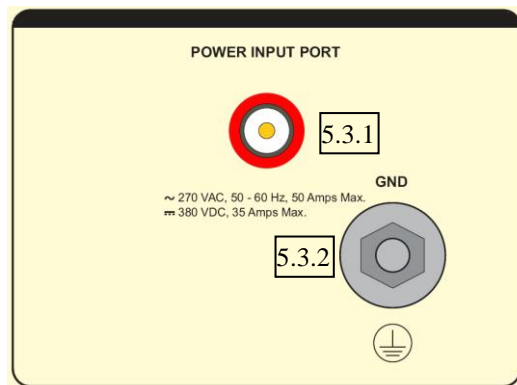

Figure 3: Rear Panel
*The LI-150C is based on the 50Ω/50 μH artificial mains network (AMN) circuit and component values (Figure 3) specified in ANSI C 63.4 – 2009 American National Standard for Methods of Measurement of Radio-Noise Emissions from Low-Voltage Electrical and Electronic Equipment in the Range of 9 kHz to 40 GHz*